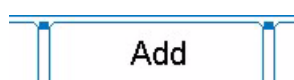

Figure 9.16 Add/Remove Button
1. Press the **Add** button (Figure 9.16) in the main screen.
- 1. Press the **Remove** button (Figure 9.16) in the main screen.
1. Press the **Remove** button (Figure 9.16) in the main screen.